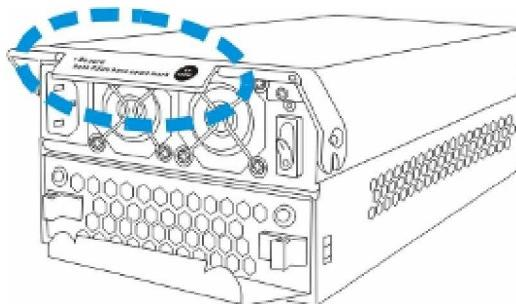

Figure 5-20: Label on the PSU Handle
- **Two (2) redundant PSU modules:** The FALCON III is preinstalled with two (2) 460W, fully redundant, hot-swappable PSU modules. These modules are located at the rear of the subsystem.
- **PSU printing mark:** Before you insert a new PSU, be sure that it has the same printing mark on its handle as that shown on the handle of a remaining PSU. Double-check to avoid mixing a PSU of previous FALCON series. (See **Figure 5-20**)